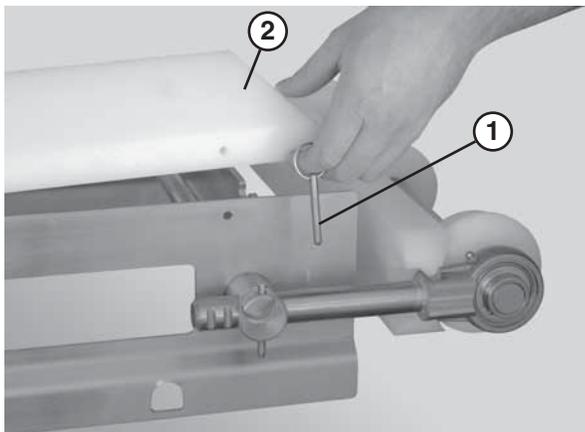

Figure 47
1. Remove the guides, if applicable, by removing the pull pins (**Figure 47, item 1**) that connect the guide (**Figure 47, item 2**) to the frame.
1. Remove the pull pins (Figure 47, item 1) that connect the guide (Figure 47, item 2) to the frame.